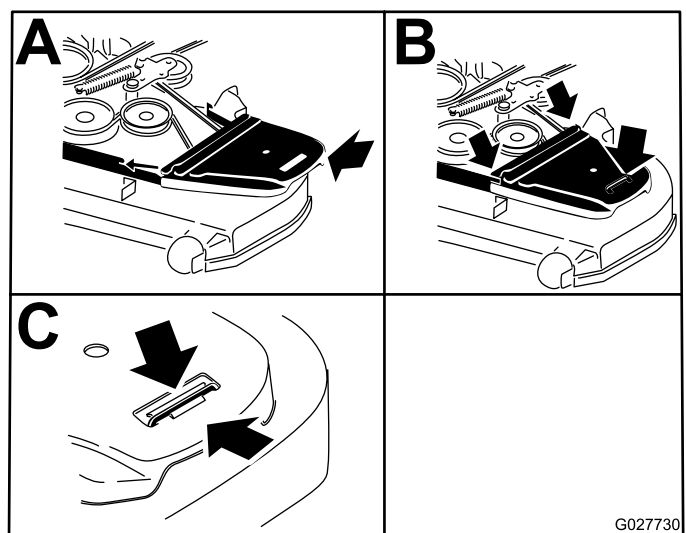

Figure 76
12. Install the belt covers (Figure 76).